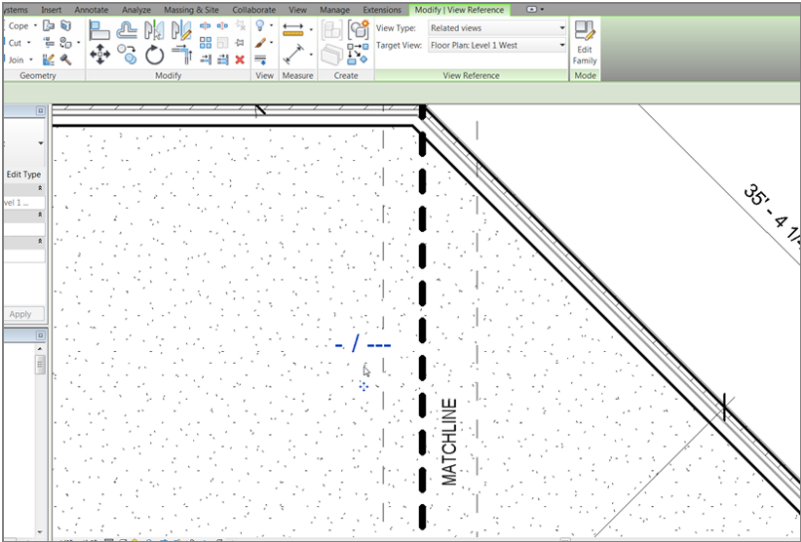

FIGURE 13.13: Adding a view reference includes choosing the correct target view.
8. Click the move grip, and drag the text over to the match line so it's positioned as shown in Figure 13.13.
10. In the View Reference panel is a Target View list. Make sure Floor Plan: Level 1 West is current (see Figure 13.13).
11. Pick a point to the left of the match line (again, see Figure 13.13).